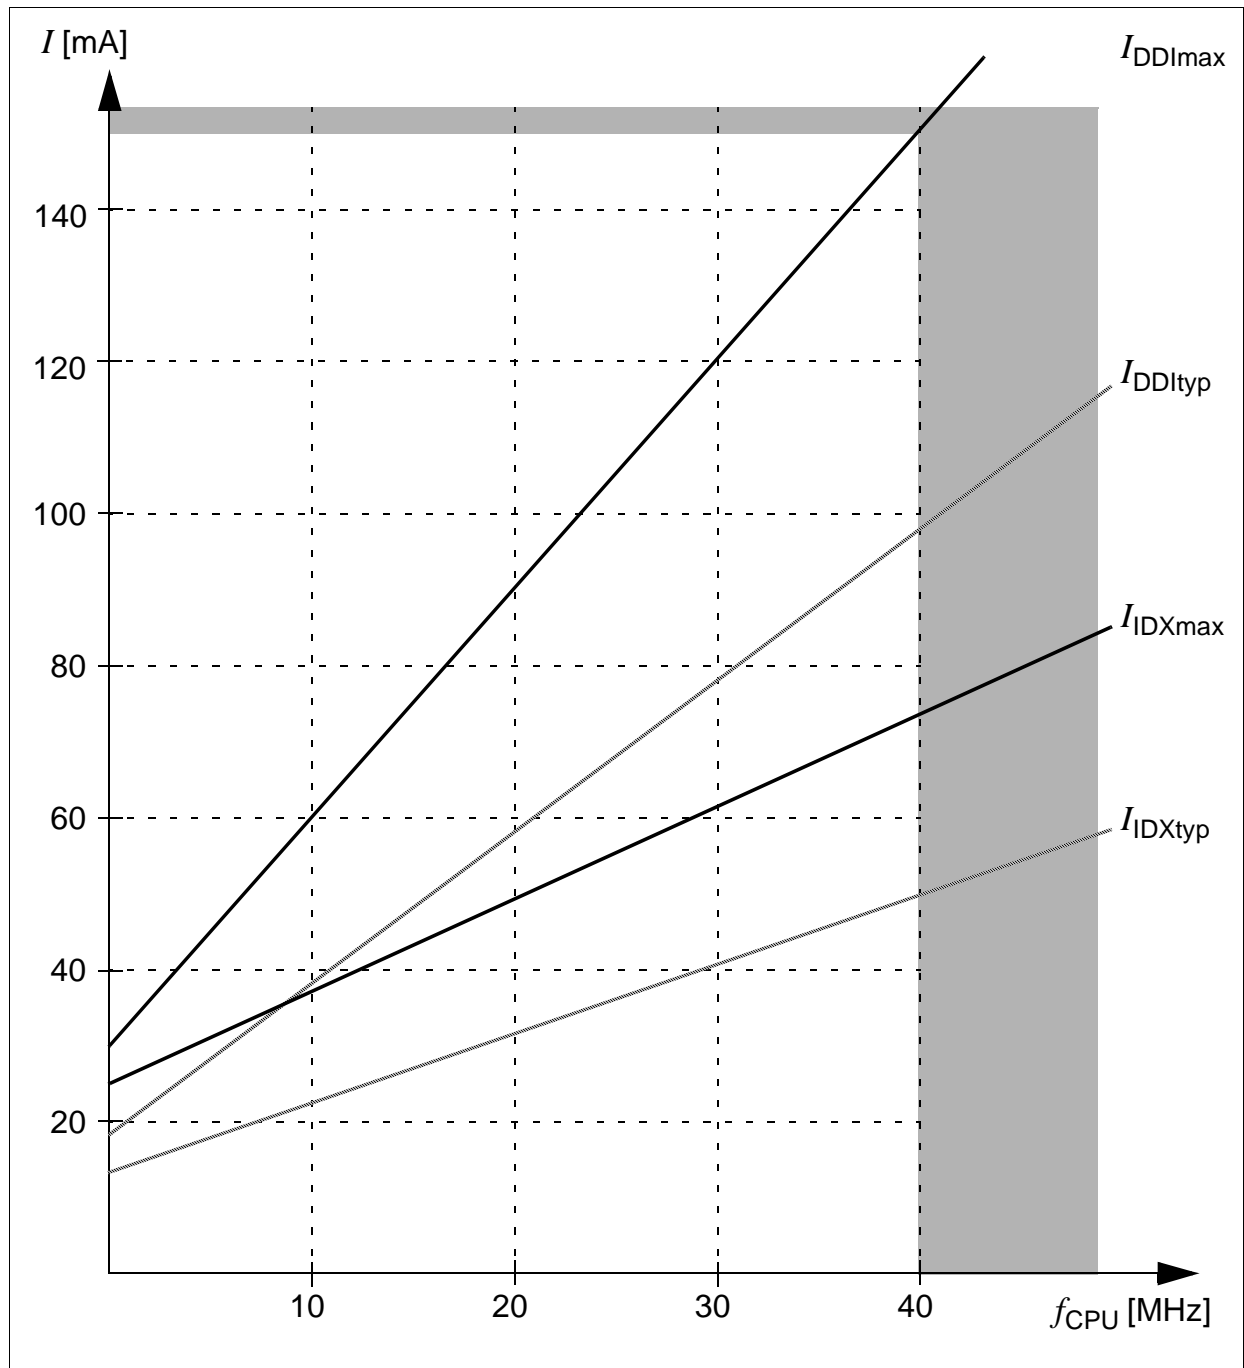

Figure 10 Supply/Idle Current as a Function of Operating Frequency
- 2) The supply current is a function of the operating frequency. This dependency is illustrated in Figure 10. These parameters are tested at V_{DDImax} and maximum CPU clock frequency with all outputs disconnected and all inputs at V_{IL} or V_{IH} . The V_{DDP} pins only draw leakage currents if no output is toggling. Otherwise, the respective charging current must be delivered.